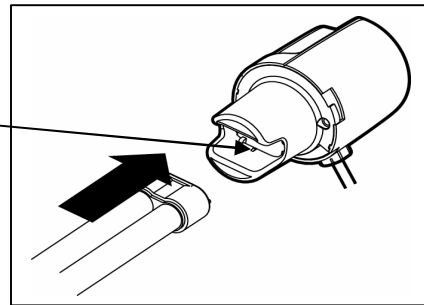

Fig. 2
1. Install the lamp by firmly pressing it into the unit. (See Fig. 2) Use a cleaning cloth and alcohol to remove dirt and fingerprints.